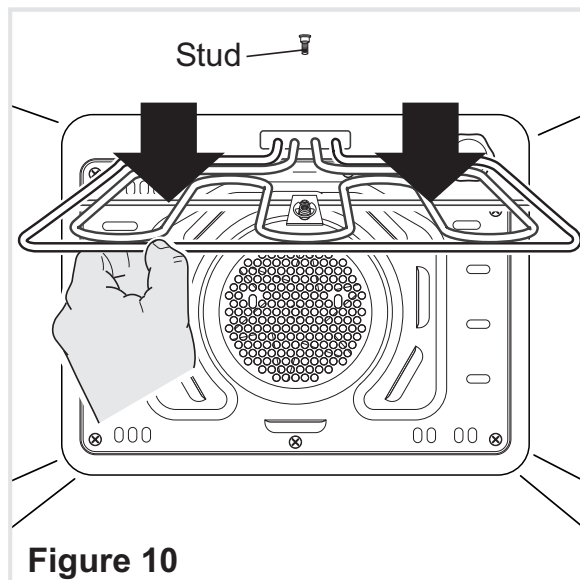

Figure 10
- The grill is secured to the rear wall of the ovens on a hinge system that allows it to be lowered to allow proper access when cleaning the oven ceiling (fig. 10).